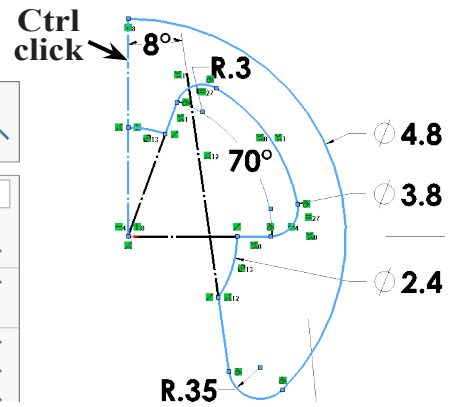

Fig. 17
Step 2. Ctrl-click vertical centerlines to add to selection, Fig. 17.